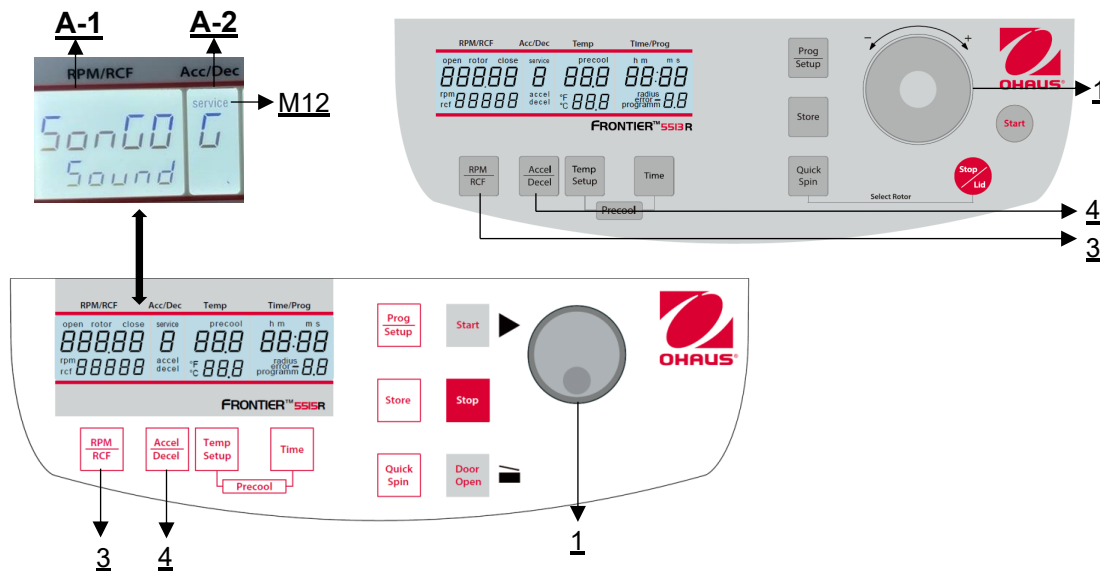

Figure 29
Proceed as described under point 4.1.1 to enter this program mode and then press the key **"Accel/Decel"** (4). In the display **"Acc/Dec"** (A-2) the word **"Service"** (M12) flashes. Now select the letter **"G"** with the adjusting knob / touch wheel (1). As a result, the words "SonGo/Sound" appear in the display **"RPM | RCF"** (A-1). After pressing the key **"RPM | RCF"** (3), you can select a song with the adjusting knob / touch wheel (1) (see Figure 29).